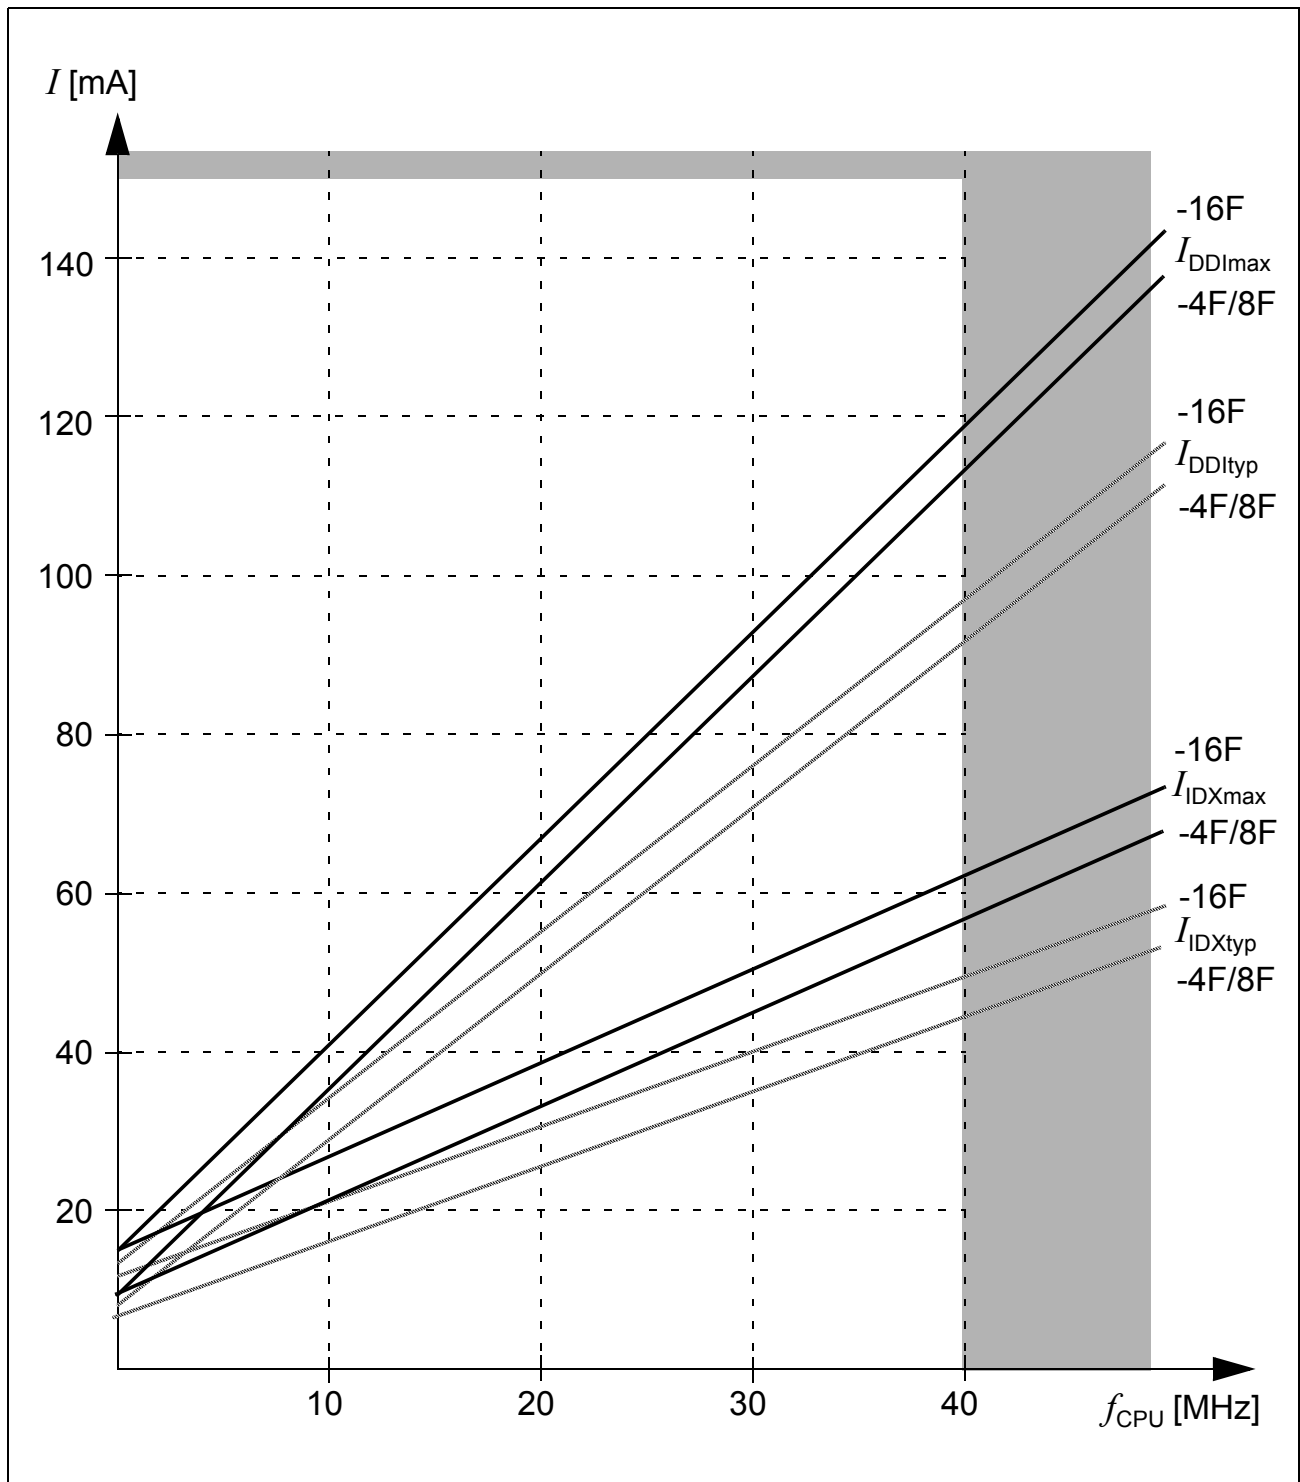

Figure 10 Supply/Idle Current as a Function of Operating Frequency
- 2) The supply current is a function of the operating frequency. This dependency is illustrated in Figure 10. These parameters are tested at $V_{DDI\max}$ and maximum CPU clock frequency with all outputs disconnected and all inputs at V_{IL} or V_{IH} .